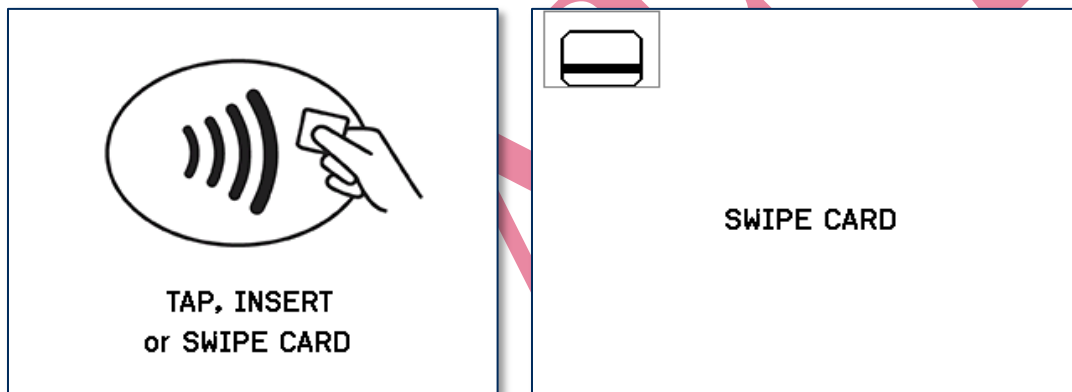

Figure 6-16 - Example Card Swipe Screens
- 1) Wait for the device to display an action prompt (see **Figure 6-16** for examples).